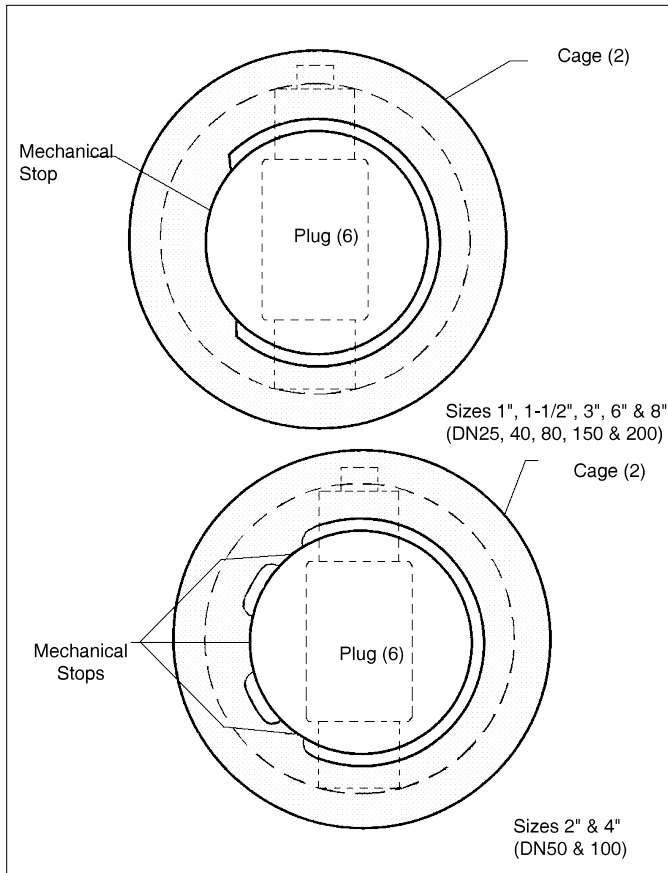

FIGURE 7
5. Rotate plug (6) to the closed position. Ensure that the plug (6) is fully pulled into the mechanical stop (5) on the cage (2). See Figure 7. Ensure that the closing torque is nil; i.e. actuator assembly (AA) linkage is "loose" or "slack".
6. Insert the cage/plug subassembly (2)(4)(5)(6) into the body (1). On 1-1/2" and 2" sizes with lo-noise inserts or abrasion sleeve, make sure these pieces and the cage (2) slip together on the back of the cage (2). Make sure the tongue on the plug (6) stub shaft and the groove in the stem subassembly (7) mate together. Check by looking in through the back-end of the body (1) or by adjusting the supply pressure to the actuator within limits of bench range as specified on name plate (21), watching for plug (6) movement as stem subassembly (7) rotates.